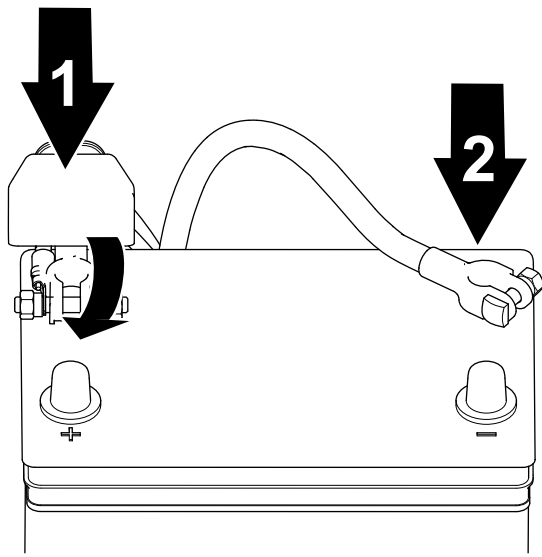

Figure 40
1. Connect the positive cable to the battery and tighten the battery-clamp nut (Figure 40).
2. Connect the negative cable to the battery and tighten the battery-clamp nut (Figure 40).